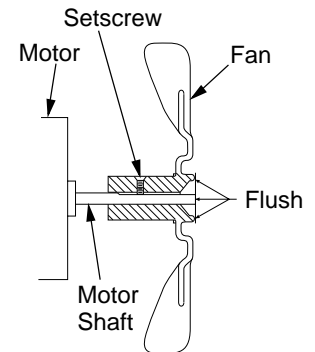

Figure 6 - Fan Cross Section and Setscrew Location
6. Replace fan on motor shaft. Place fan hub flush with end of motor shaft (see Figure 6).